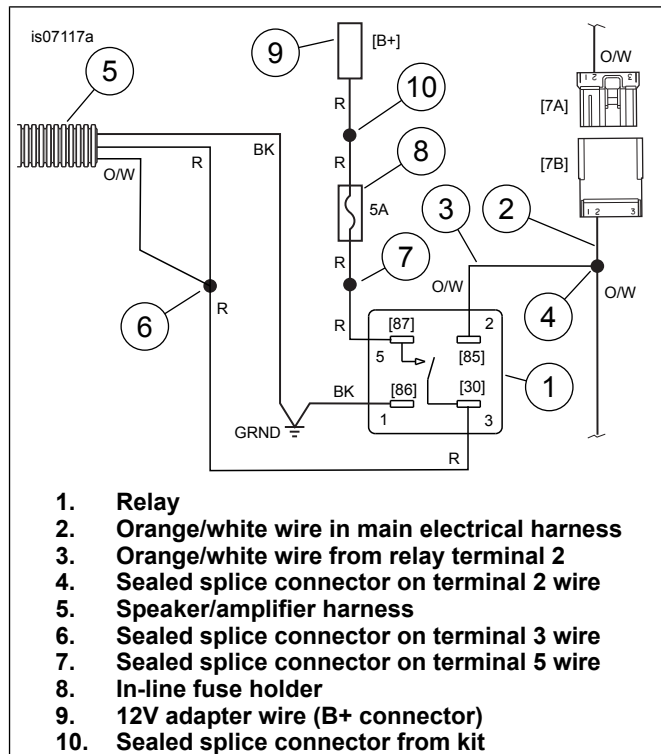
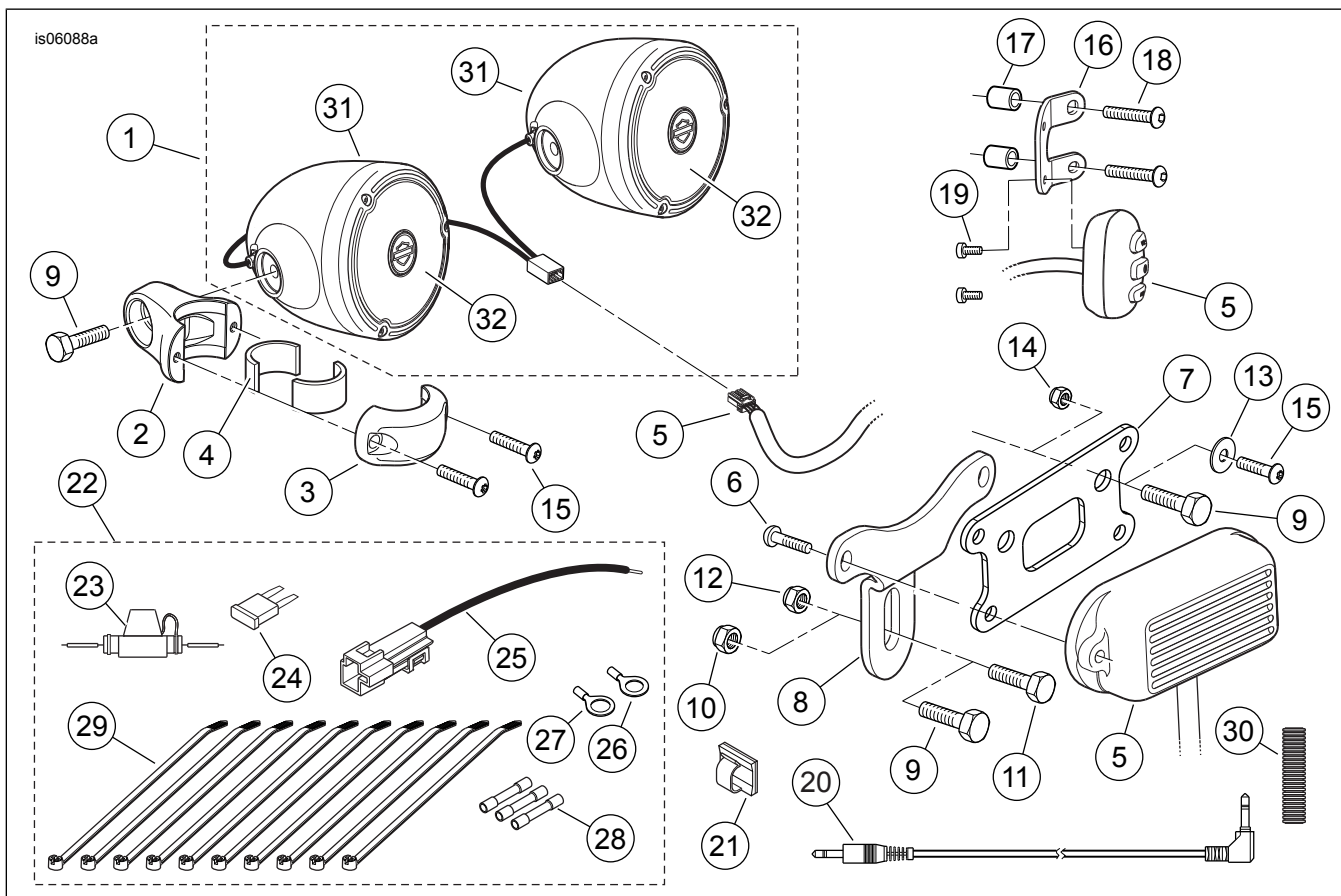

Figure 5. Wiring Diagram, Speaker/Amplifier Harness to Relay
Figure 7. Service Parts, Handlebar-Mounted Speaker and Amplifier Kits
2. See Figure 7. Get the electrical hardware pack (22) from **THIS** kit.
3. Select the in-line fuse holder (23) and one blue sealed splice connector (28) from the hardware pack.
5. See Figure 5. Find a suitable location under the seat for the relay (1), so that the terminals face **down or horizontally**. The terminals should not face upward.
6. Cut the **orange/white wire (2) in the main electrical harness** near the rear lighting connector [7].
7. See the service manual appendix. Use a suitable radiant-heating device to splice and seal the two cut orange/white wires to the sealed splice connector (4) on the orange/white wire (3) from relay terminal 2.
13. See Figure 7. Select a ring terminal from the electrical hardware pack.
- **Dyna Wide Glide models:** use the 7.9 mm (5/16 in) ID terminal (27).
- **All models EXCEPT Dyna Wide Glide:** use the 6.4 mm (1/4 in) ID terminal (26).
5. See Figure 7. The 3.5 mm connector from the hand control can be secured to the handlebar with cable straps or secured to the upper triple clamp or nacelle with the adhesive-backed clip (21) from the kit. If using the clip: